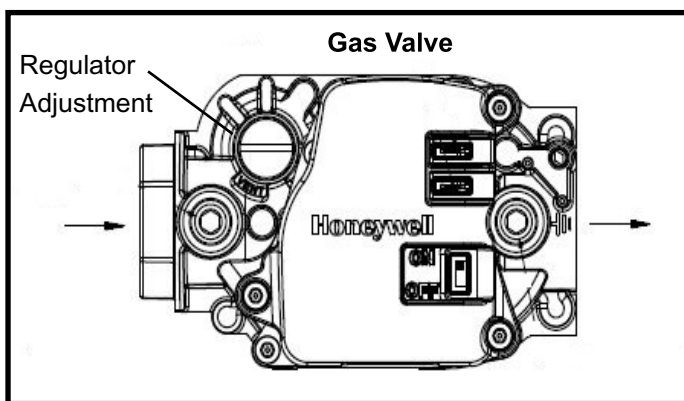

Figure 1
6. Slide the gas control switch, or turn the gas control knob, to "OFF" (see Figure 1).
4. Slide the gas control switch, or turn the gas control knob "OFF" (see Figure 1). Do not force.